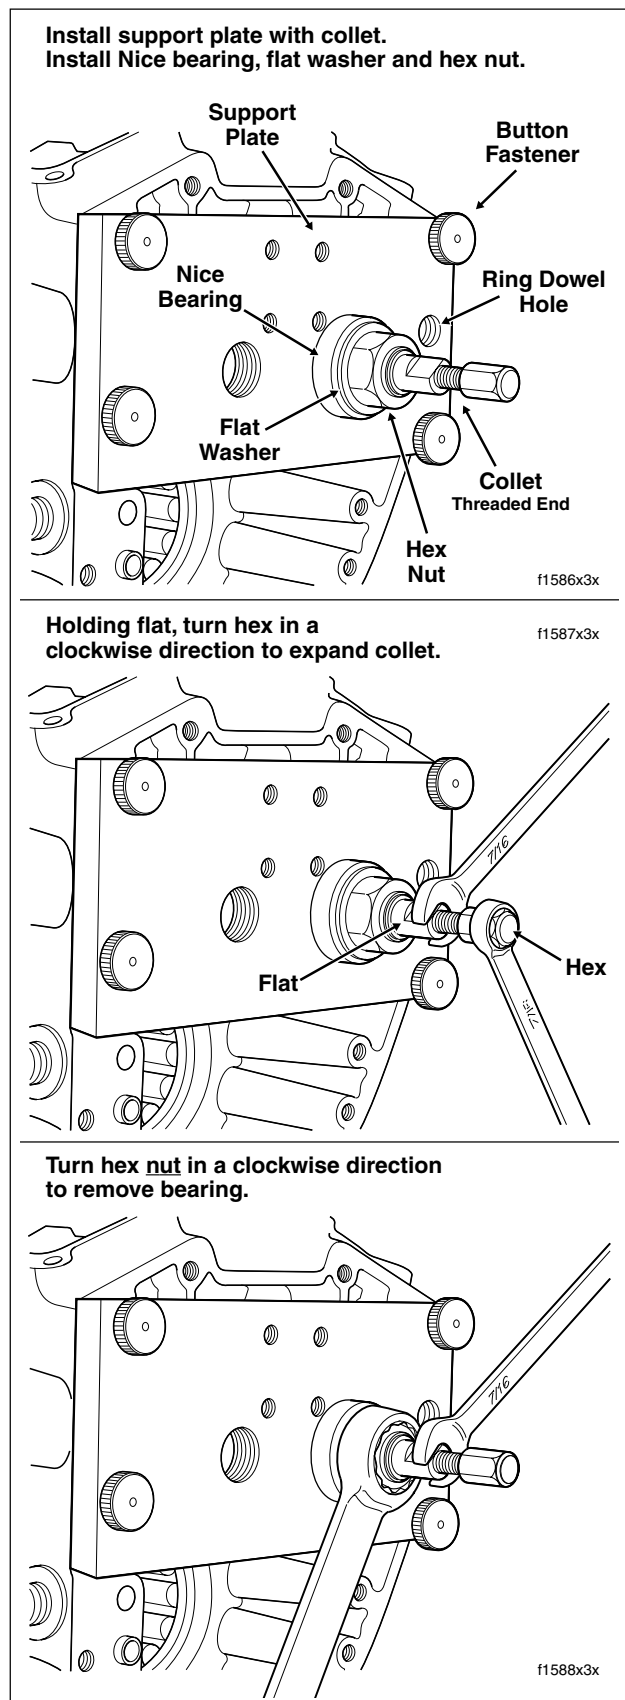

Figure 3-119. Remove Cam Needle Bearing
6. Align four holes at corners of support plate with threaded holes in crankcase flange. Install button fasteners in these holes to secure support plate to crankcase. See upper frame of Figure 3-119.
10. Using a 7/16 inch open end wrench, hold flat on collet to prevent rotation. Using a second 7/16 inch open end wrench, expand collet by turning hex at end of shaft in a clockwise direction. See center frame of Figure 3-119. Expandable end of collet makes contact with needle bearing ID.
11. Using a 15/16 inch open end wrench, turn hex nut in a clockwise direction until bearing is free. If necessary, hold flat on collet to prevent rotation. See lower frame of Figure 3-119.